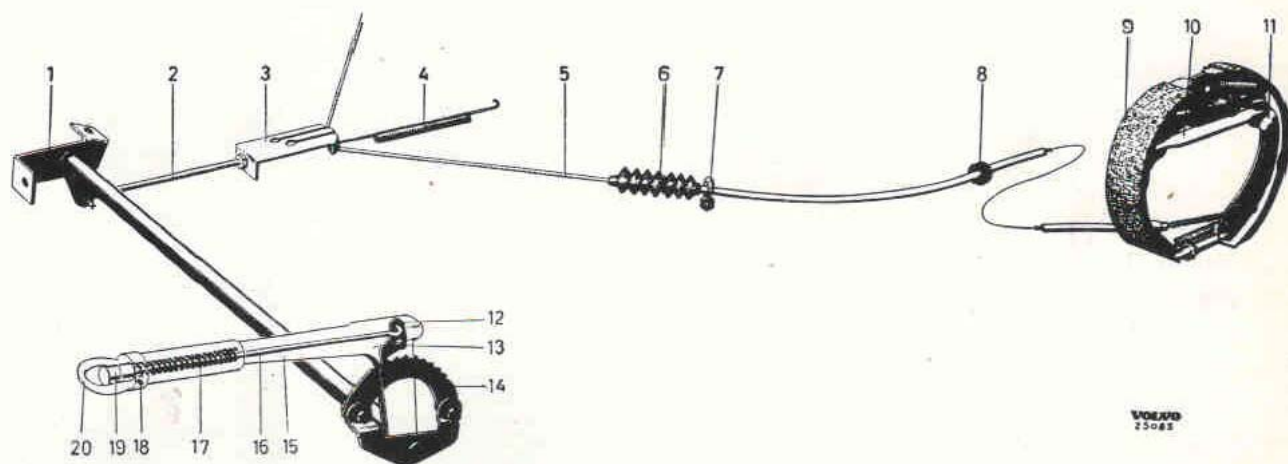

Fig. 13. Handbrake system.
The handbrake lever is floor-mounted on the outside of the driving seat. The movement of the lever is transmitted by means of a shaft, lever and pull rod to the clevis (3, Fig. 13). From there the movement is transmitted by means of cables (5) to the rear wheel brake unit levers (11). The upper end of this lever is attached to the rear brake shoe. When the lever is pulled forwards, the shoes are forced outwards by means of the links (10), causing the handbrake to be applied.